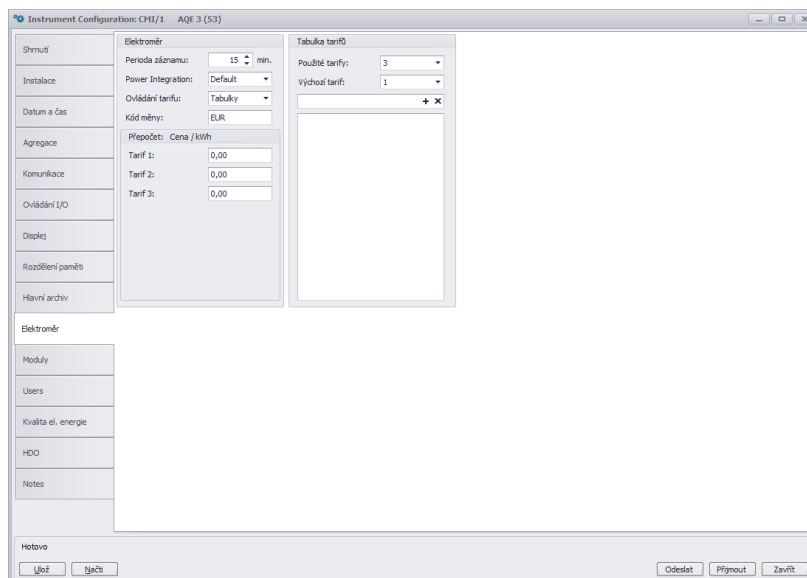

Figure 18: ENVIS.Daq — setting the electricity meter and tariffs and electricity prices.
2.4.7 Electricity meter (fig. 18)